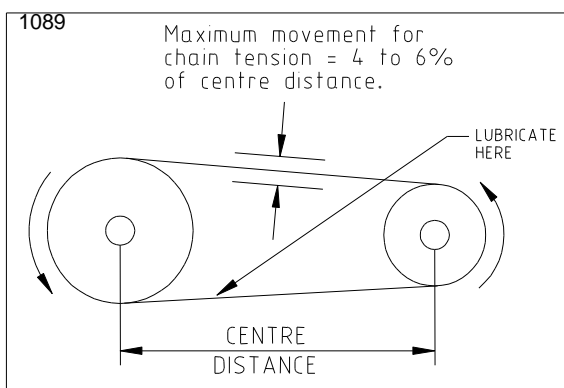

Fig. GM1 Chain Tension
- Check chain tension (Fig. GM1).